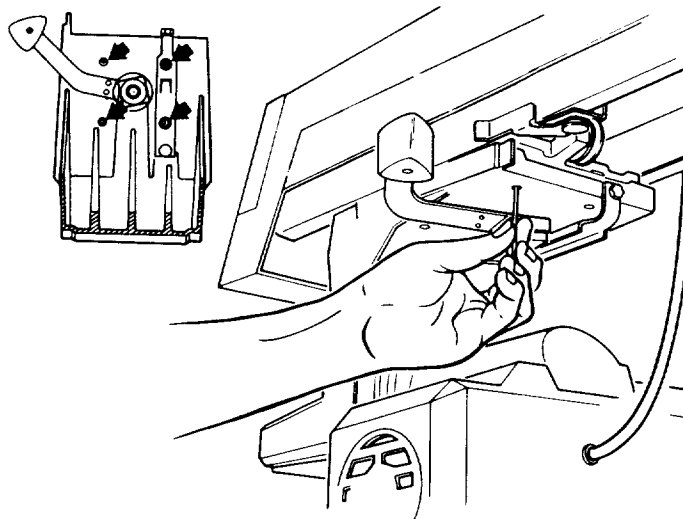

Fig. 91
7. Loosen the four screws under the *yoke* using a 3/16 inch hex-L wrench and pliers, if necessary (Figure 91)